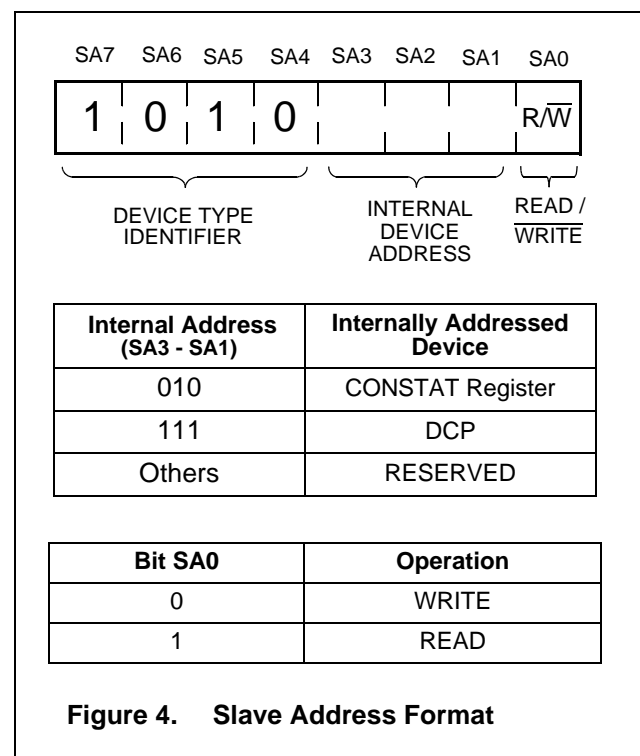
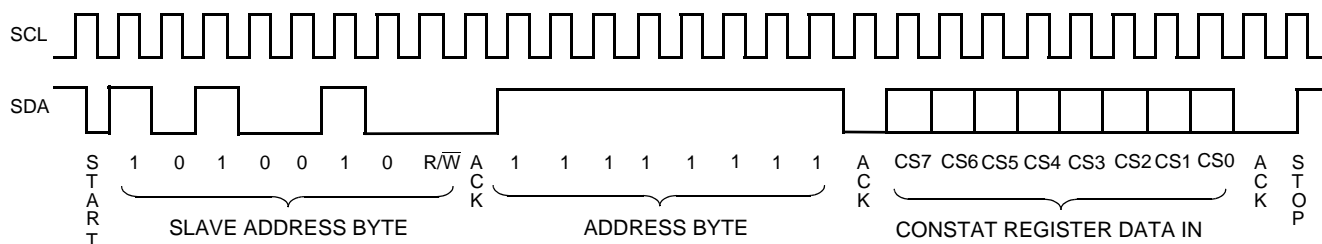

Figure 4. Slave Address Format
Figure 12. CONSTAT Register Write Command Sequence
Following a START condition, the master must output a Slave Address Byte (Refer to Figure 4.). This byte consists of three parts:
—The Least Significant Bit of the Slave Address (SA0) Byte is the R/W bit. This bit defines the operation to be performed on the device being addressed (as defined in the bits SA3 - SA1). When the R/W bit is "1", then a READ operation is selected. A "0" selects a WRITE operation (Refer to Figure 4.)
Writes to the WEL bit do not cause an internal high voltage write cycle. Therefore, the device is ready for another operation immediately after a STOP condition is executed in the CONSTAT Write command sequence (See Figure 12).
- After a successful write operation to any bits of the CONSTAT register has been completed (See Figure 12).
The CONSTAT register is accessed using the Slave Address set to 1010010 (Refer to Figure 4.). Following the Slave Address Byte, access to the CONSTAT register requires an Address Byte which must be set to FFh. Only one data byte is allowed to be written for each CONSTAT register Write operation. The user must issue a STOP, after sending this byte to the register, to initiate the nonvolatile cycle that stores the DWLK bit. The X9522 will not ACKNOWLEDGE any data bytes written after the first byte is entered (Refer to Figure 12.).